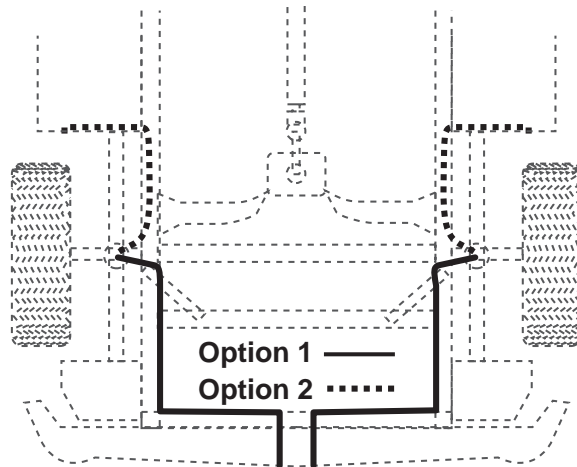

fig. 13
6. Route the air line along the frame to the air fitting on the air spring (fig. 13). Keep AT LEAST 6" of clearance between the air line and heat sources, such as the exhaust pipes, muffler, or catalytic converter. Avoid sharp bends and edges. Use the plastic tie straps to secure the air line to fixed, non-moving points along the chassis. Be sure that the tie straps are tight, but do not pinch the air line. Leave at least 2" of slack to allow for any movement that might pull on the air line.